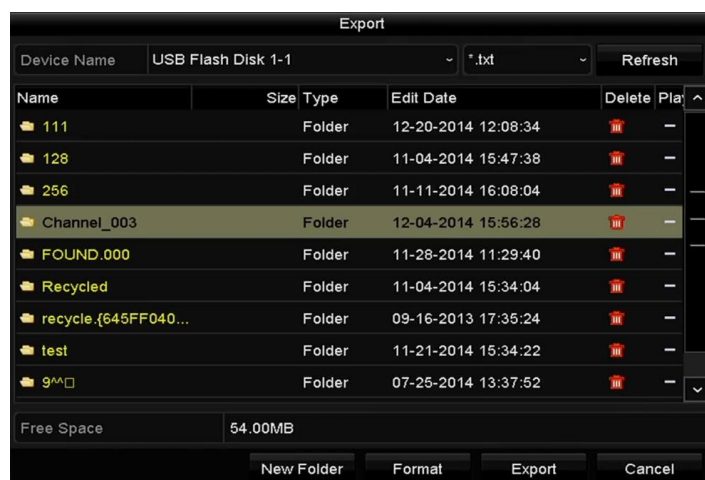

Figure 12-5 Export Log Files
Step 6 If you want to export the log files, click the **Export** button on the Search Result interface to enter the Export menu, as shown in Figure 12-5.